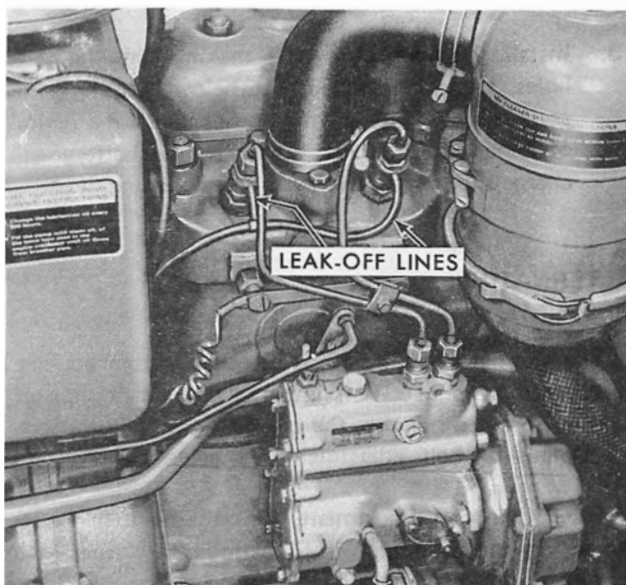

Figure 34
4. Install the leak-off line, using new copper sealing washers above and below each connection, Figure 34. Tighten the leak-off line bolts to 8-10 lbs. ft. (1.1-1.3 kgm).